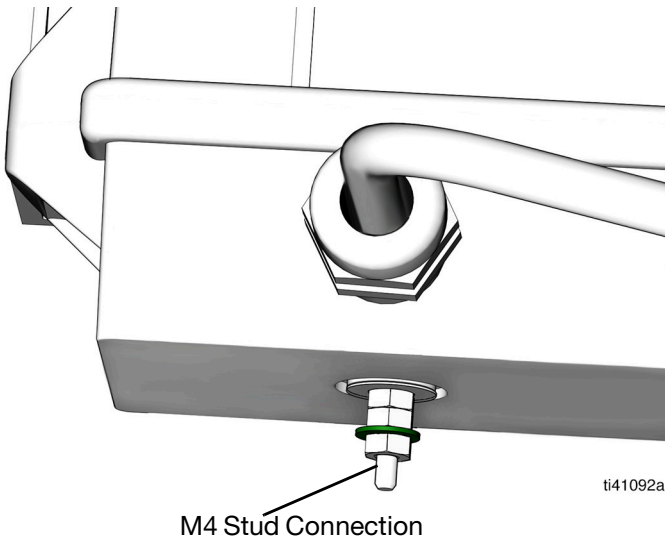

FIG. 4
- For ATEX or hazardous (classified) locations, connect a grounding wire between the M4 stud and the chassis ground of the tank. This provides equipotential grounding of the pressure sensor housing. (FIG. 4).